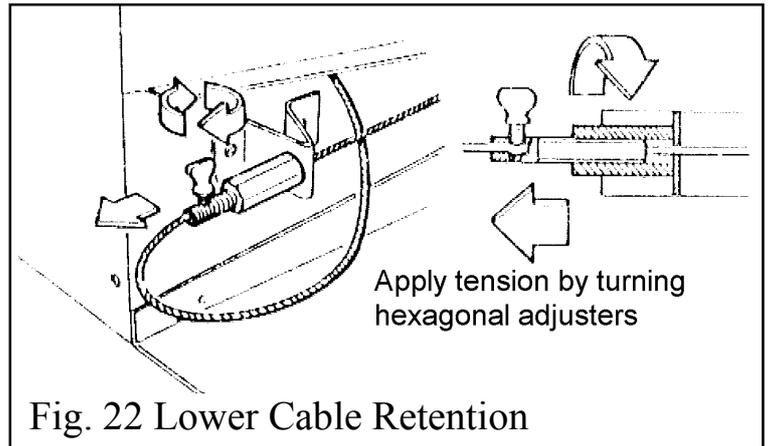

Fig. 22 Lower Cable Retention
9. Pull each cable taut. Push the cable retainers hard up against the "V" brackets. Tighten the screws in the retainers so that they clamp the cables in position. Apply tension to the cables by turning the hexagonal adjusters by hand. See figure 22.